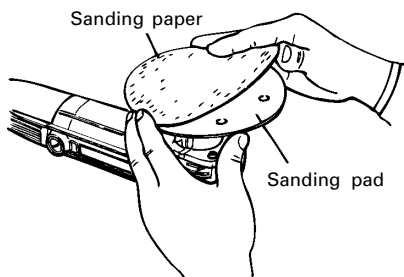

Fig. 2
- (2) After ensuring that the sanding pad is free of dust and oil, mount the sanding paper to the sanding pad as shown in Fig. 2, ensuring that the outer circumferences of the pad and paper are matched.